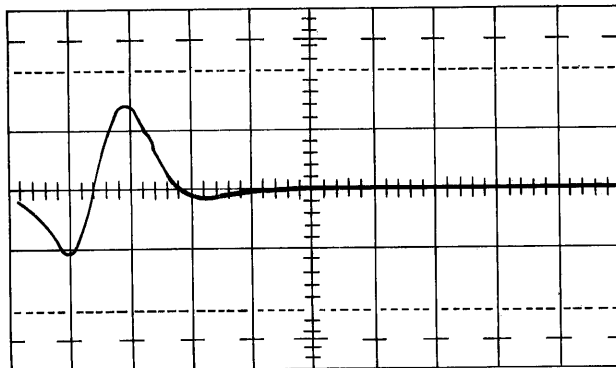

Figure 5-18. Index Pulse Polarity
- e. Increase sweep time to 5 microseconds (see Figure 5-18).